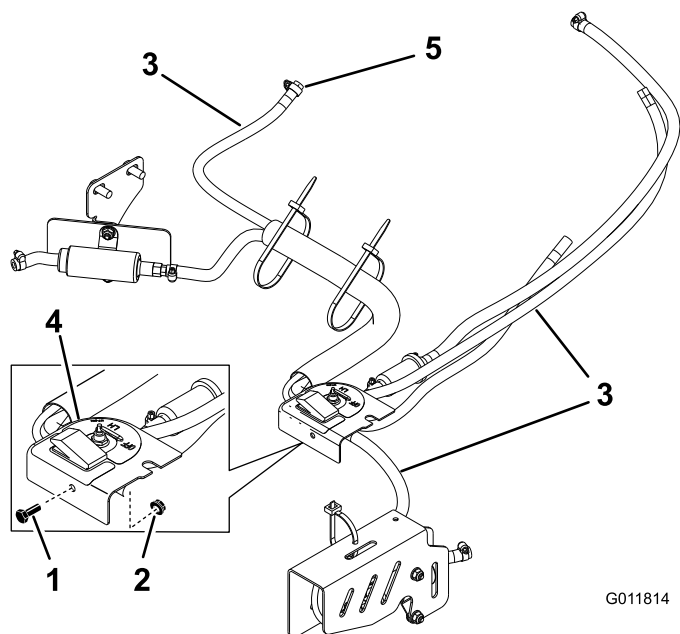

Figure 7
14. Route the fuel lines as shown in Figure 7.
15. Locate the longer of the two new right hand fuel hoses attached to the fuel selector valve assembly and connect it to the upper right hand tank fitting (Figure 7).
18. Install the new bracket to the machine using the existing bolt and nut (Figure 7).